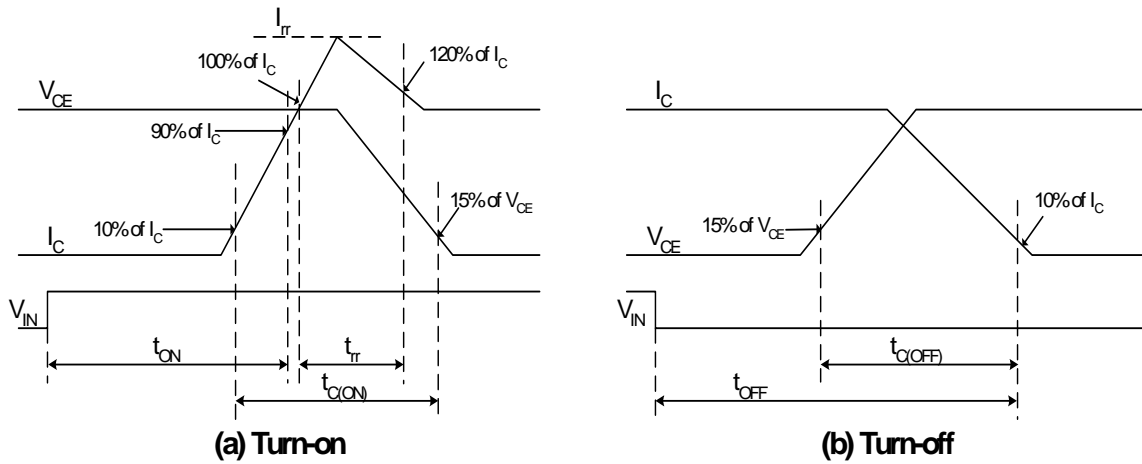

Figure 4. Switching Time Definition
2. t_{ON} and t_{OFF} include the propagation delay of the internal drive IC. t_{C(ON)} and t_{C(OFF)} are the switching time of IGBT itself under the given gate driving condition internally. For the detailed information, please see Figure 4.